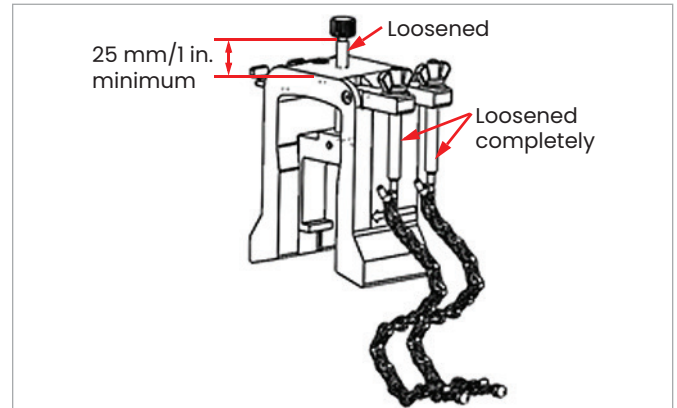

Figure 35: Loosened yoke screw and J-hooks
- Loosen the yoke screw at least 25 mm/1 in. (all the way for pipes <50 mm/2 in.) and loosen the J-hooks all the way (see *Figure 35* below).